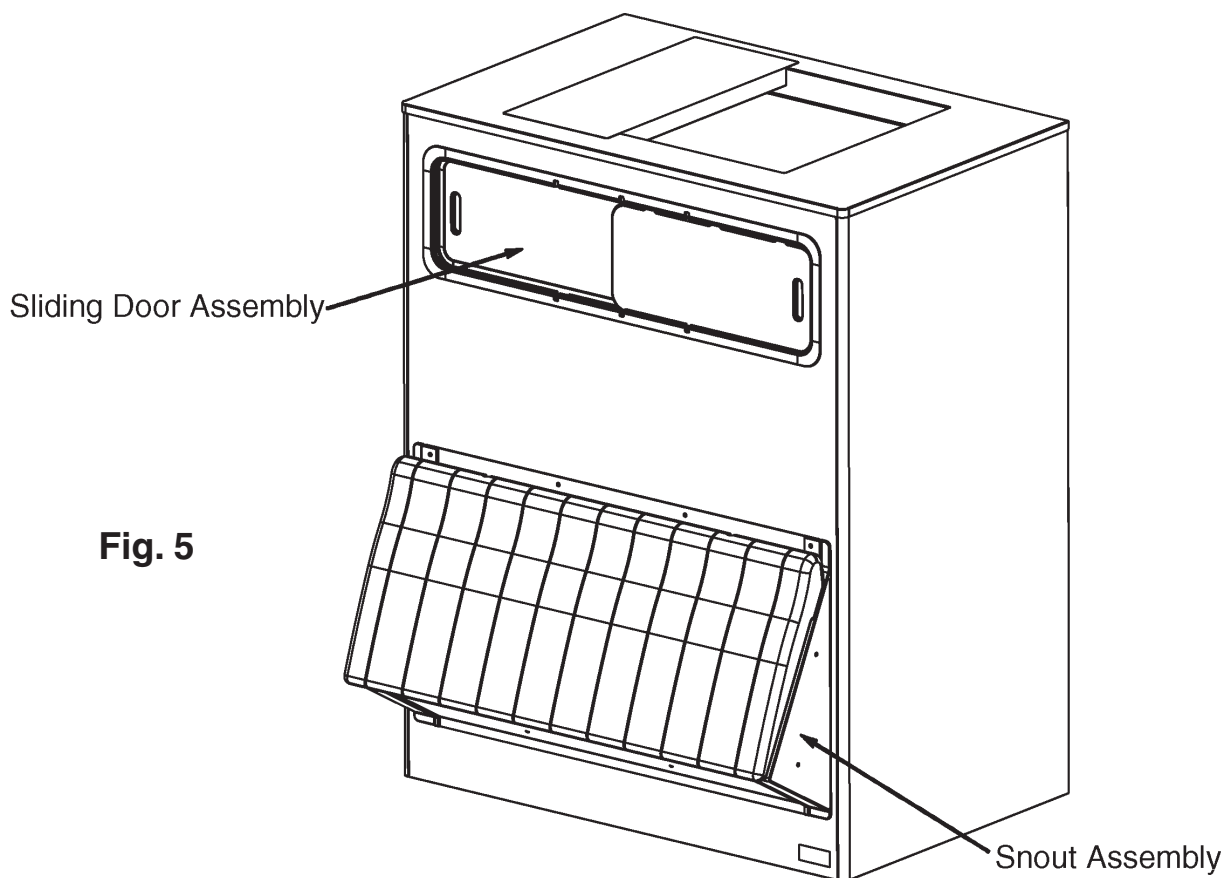

Fig. 5
- 4) Scrub the inside of the bin, the snout assembly and the sliding door assembly using a nylon scouring pad, brushes and cleaning solution, such as 5 oz. of Hoshizaki "Scale Away" or "LIME-A-WAY" (Economics Laboratories, Inc.) diluted in one gallon of water. See Fig. 5.